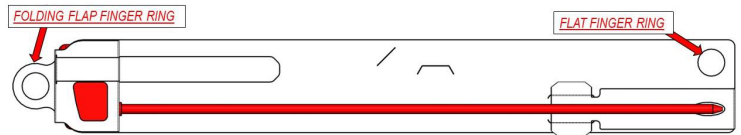

Figure 5: Finished Assembly
- Fold up Folding Flap Finger Ring (Figure 5)
- Figure 5 shows the Folding Flap Finger Ring in the product removal position